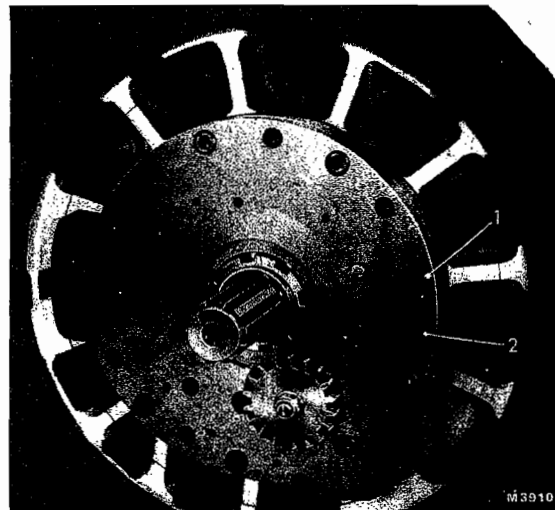
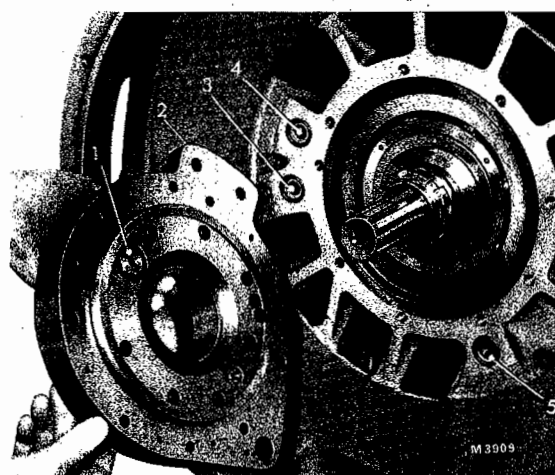

FIG. 10 THE PUMP MINUS FRONT COVER
FIG. 11 REMOVING THE PUMP
2. Release the socket-headed screws securing the cover plate and pump body (2) Fig. 10, to the clutch housing and withdraw the assembly, Fig. 11.
Renew the O-rings (3, 4 and 5) Fig. 11, the oil seal (86) and seal rings (102) as necessary. Remove all trace of 'Loctite' from the oil seal housing and cover plate.
3. Unscrew and inspect the relief valve (1) Fig. 11. Examine the valve seat and ball bearing for pitting or sign of failure.